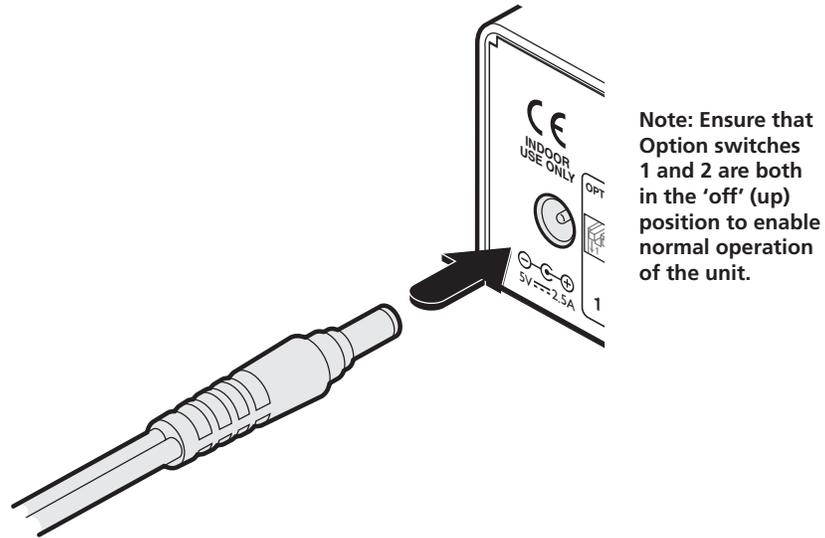

Figure 3-8. Connect the power adapter to the rear panel power socket.
- 1 Attach the output lead from the power adapter to the 5V socket on the rear panel of the unit. See Figure 3-8.